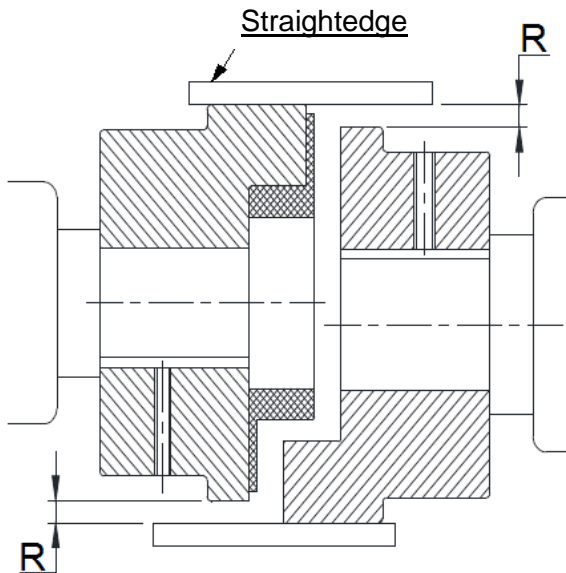

Figure 7.3: Measurement with a straightedge
Take a straightedge and place it onto the hub (item 1) as displayed in figure 7.3. The position where $R=0$ then needs to be found through multiple application of the straightedge. Taking this point as a basis, measure at an approx. 90° offset with a feeler gauge distance "R". To be sure, distance R can be measured again at another approx. 180° . It can also be carried out in a similar manner with a depth gauge. The largest measured distance indicates the given radial misalignment.
Alternatively, the radial misalignment can be measured with the help of a dial gauge. The dial gauge holder is mounted on a hub (item 1). Afterwards, place the volumetric flask on the processed outer diameter of the second hub (item 2) (see figure 7.3). The dial gauge then needs to be placed multiple times at the perimeter. Note the highest and lowest value. The difference between the values divided by 2 gives you the radial misalignment of the coupling.